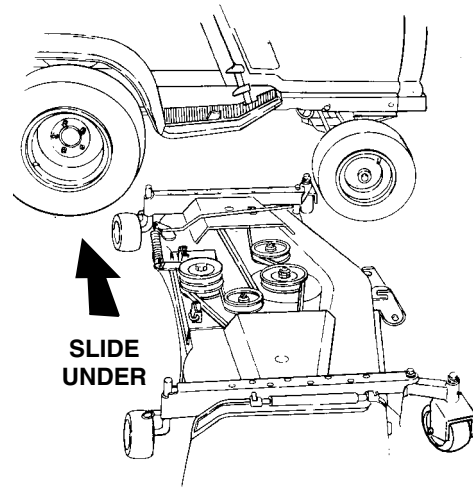

Figure 29
3. Position the deck on the right side of the tractor with the front of the deck facing toward the front of the tractor (Refer to Figure 29).